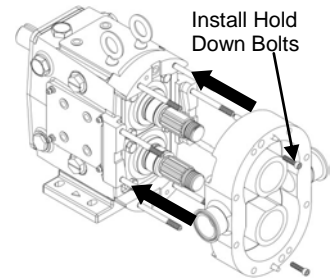

**Figure 54: Installing Gear Casing Back Cover**
10) Apply a light film of lubricant to the inside and outside diameters of the gear case cover oil seal. Using a press, install the oil seal into the back cover so that it is flush with the outside of the back cover and the spring is facing the gears. Apply a silicone sealant to the edges on the back of the gear case making sure there are no gaps. Slide the back cover onto the gear case, making sure that the shaft is centered on the oil seal, and secure it with the retaining bolts (Figure 54). It is important not to cut the oil seal on the shaft keyway; tape may be used to cover any sharp edges on the shaft. Install the oil plugs and fill the gear case with the recommended amount of oil using Table 3 on page 12.